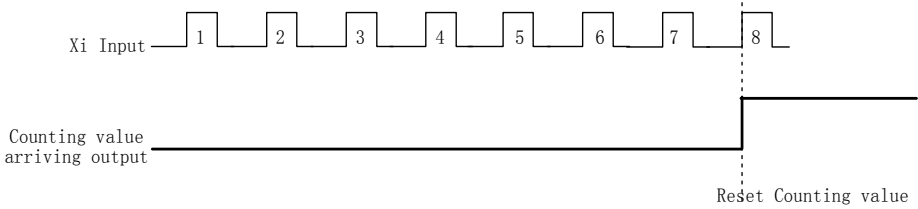

Fig. 5-3-12 Counting value arriving
- ◆ If the counting value reaches the value defined by P3.32, the output of terminal is valid, as shown in Fig. 5-3-12.